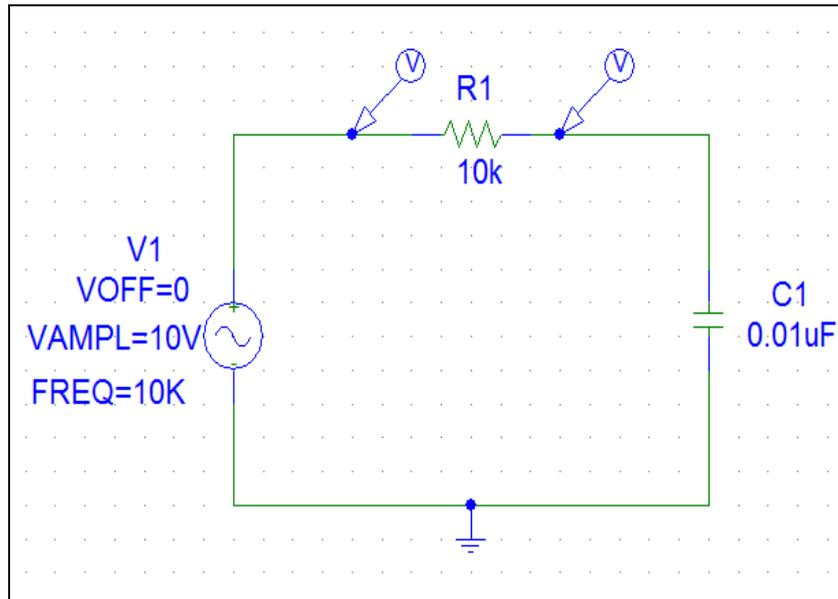

Figure 3.4
5. Then, to display input and output voltages as Y-axis variable, set the two voltage “markers” as shown in Figure 3.4. Drag the voltage marker to the desired node.[CLO3]